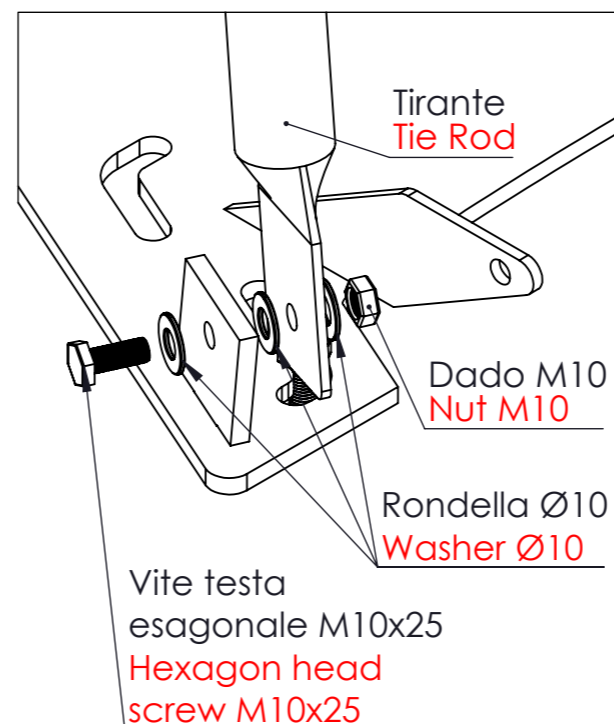

FIG. 3
4. Secure both tie rods to the base using an M10x25 hexagon head screw with washers and M10 nut as shown in Figure 3.